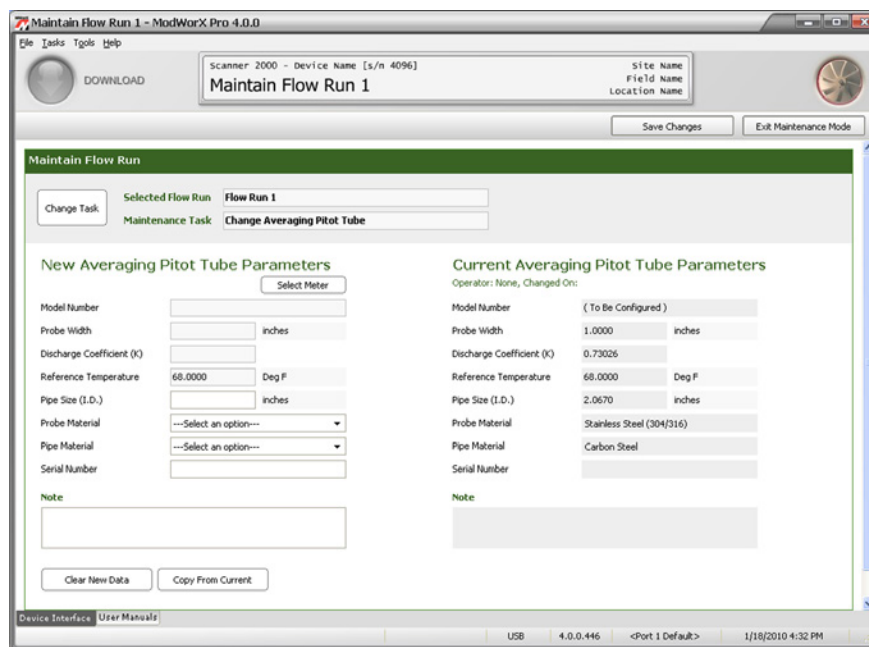

Figure 11.5
- b. Click **OK** to save your selections and return to the Maintain Flow Run screen (Figure 11.5, page 158).